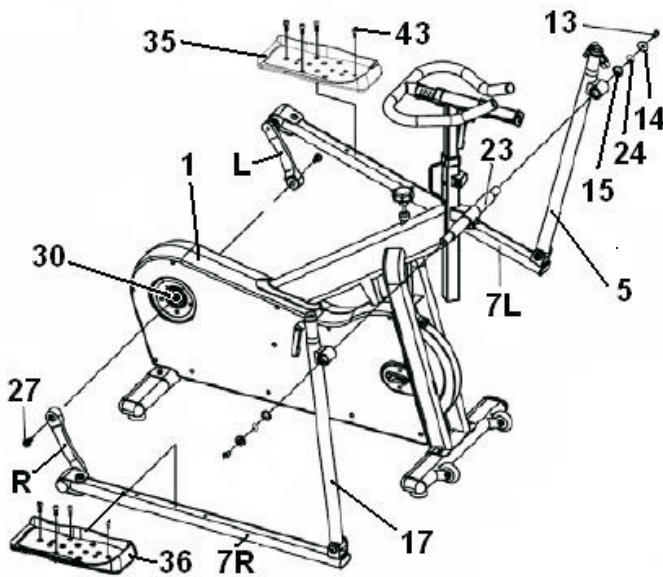

Figure 5
Take the Right pedal tube (7R) and attach the Lower Swing Arm (17) onto the spindle (23) Fig. 5. Next, insert the pedal tube onto the square shaft (30) Fig. 5 and use screw (27) to tighten the pedal tube securely
Position the Left footpad (35) marked with the letter (L) on top of the unit's left pedal tube (7) and tighten using screws (43). See fig. 5